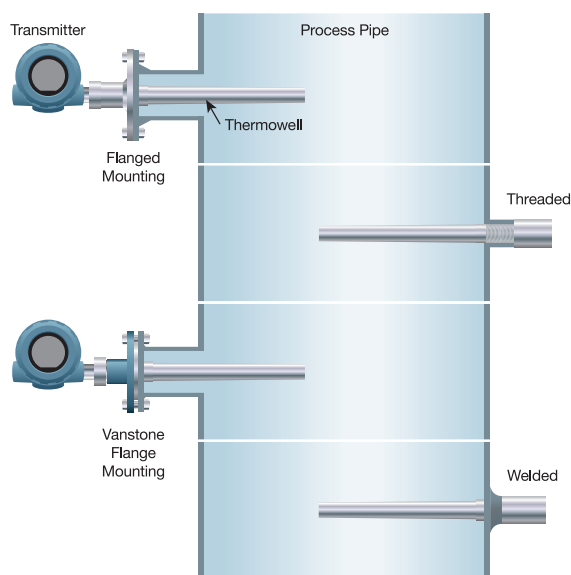

Figure 4-27: Thermowell Mounting Methods
- Ensure that the proper thermowell design has been purchased and is in accordance with the specification for pressure rating and materials of construction Figure 4-27.